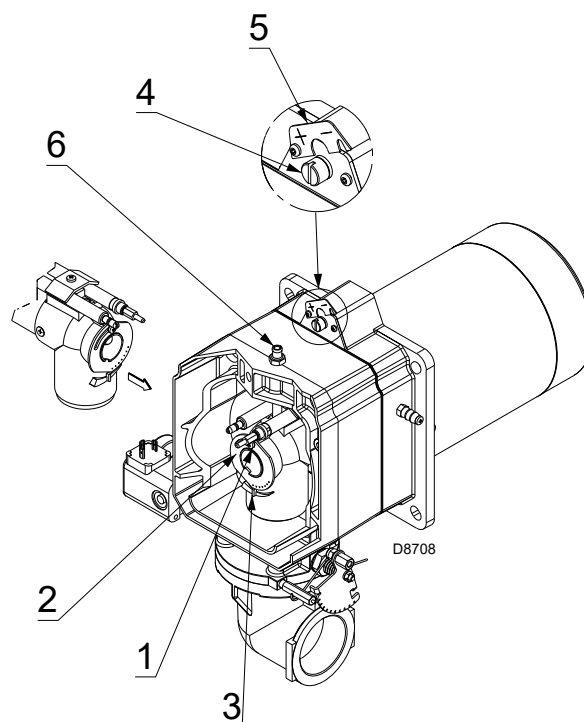
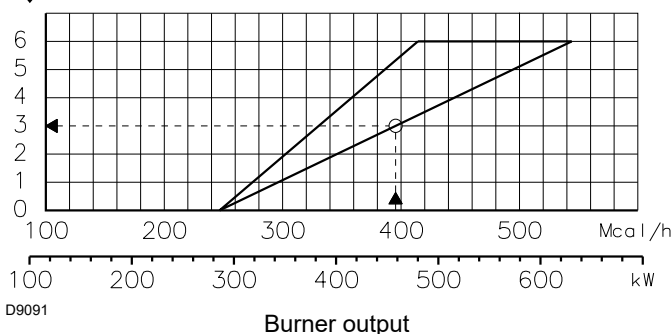

Fig. 13
Fig. 14
when the MIN output is between 80 - 129 kW, the ring nut 2)(Fig. 13) value must be adjusted to 0.
In the diagram of Fig. 14, find the notch at which both air and central gas/air should be adjusted:
- Turn the screw 4)(Fig. 13) until the notch found lines up with the front surface 5) of the flange.
- Loosen the screws 1)(Fig. 13) and rotate the ring nut 2) until the notch you have found corresponds with the indicator 3).
the burner varies output between MIN = 130 and MAX = 460 kW. The diagram (Fig. 14) shows that the gas and air adjustments for this output are carried out on notch 3.
The diagram shows the ideal settings for the ring nut 2)(Fig. 13). If ring nut 2) is only partially opened, the ring nut can be further opened 1-2 notch if pressure in the gas feeding network is very low and pressure indicated on "Gas pressure" on page 19 in MAX gas cannot be reached.
A = Gas ring nut 2)(Fig. 13 on page 16) adjusted as per diagram (Fig. 14 on page 17).
B = Gas ring nut 2)(Fig. 13 on page 16) adjusted on zero.
Gas ring nut 2)(Fig. 13 on page 16) adjusted as per diagram (Fig. 14 on page 17).